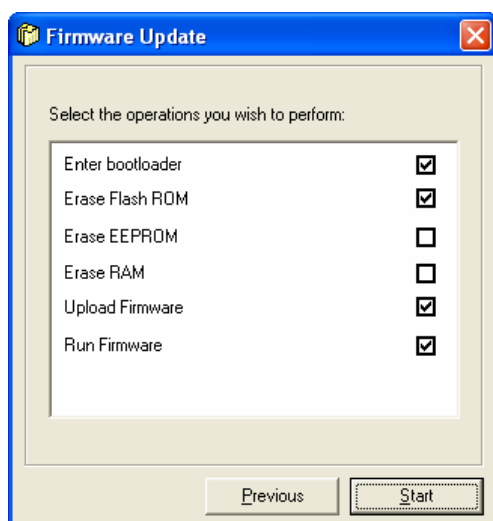

Figure 40 Operations Window.
2. Turn the two white handles so that they are not holding the central filter in place (see Figure 40).